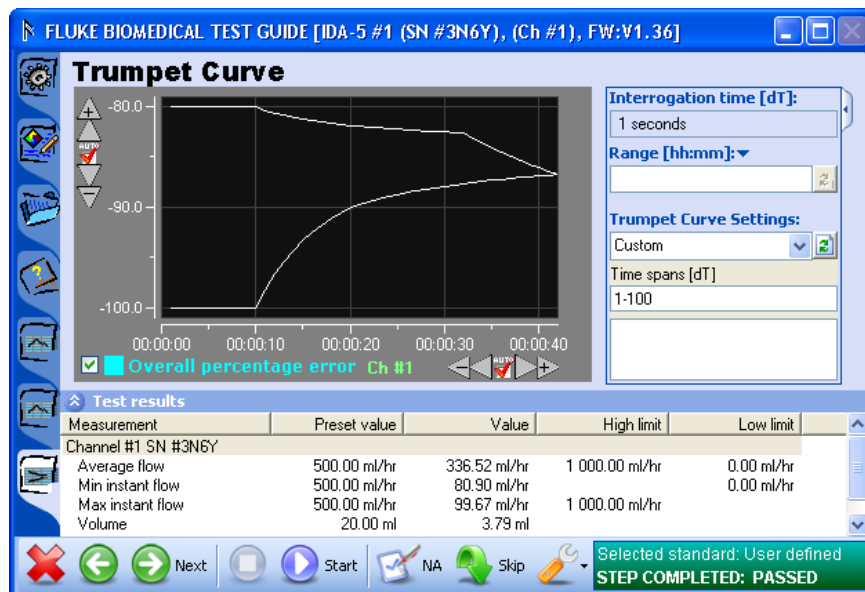

Figure 4-6. Trumpet Curve Settings in Test Guide
1. Click the Details icon (🔍) found along the right hand side of the graph frame. The trumpet curve parameter values show to the right of the graph. See Figure 4-6.